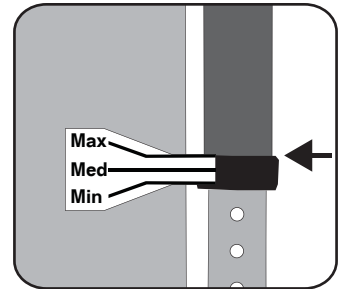

Fig. 7: Move the calibration gauge so the Maximum mark lines up with the bottom of the mast.
d) Remove the velcro downhaul gauge at the bottom of the sail and move it so that the **max** line of the gauge lines up with the bottom of your mast (fig. 7).